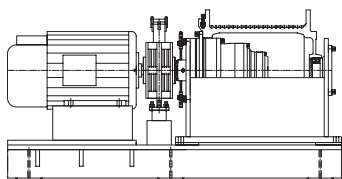
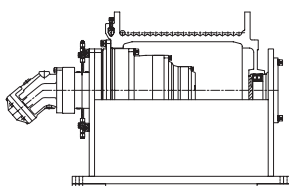

Figure 3
Figure 4
Following assemble instructions include the hydraulic motor drive winch gear units, motor drive winch gear units and no any drive gear units. Customer assembles your gear units as following figure 3 and figure 4.
1.Lift the hydraulic motor and fix it on the hoisting tools (hoist or crane). Transfer it to the input part of winch gear unit according figure 4